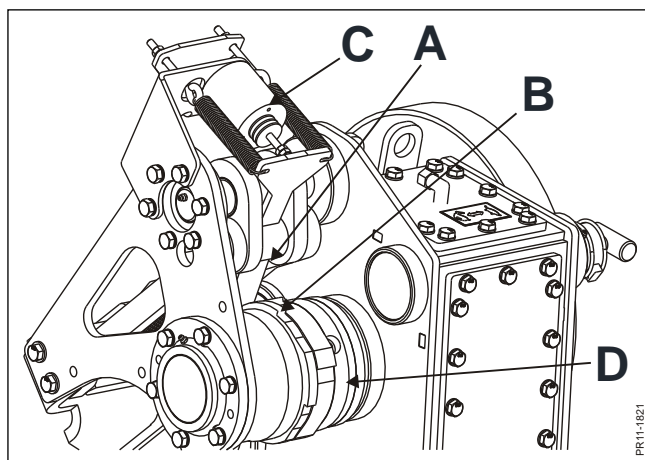

Fig. 5-8
**Fig. 5-8** The metal detector's stop system is integrated in the transmission for the feed intake system. The system consists of a pawl **A** and a ratchet wheel **B** and is activated by a coil **C**. The system is activated when metal is detected in the feed intake section and the coil gets a signal from the electronics which brings the pawl **A** in mesh with the ratchet wheel **B** and the feed intake section is blocked